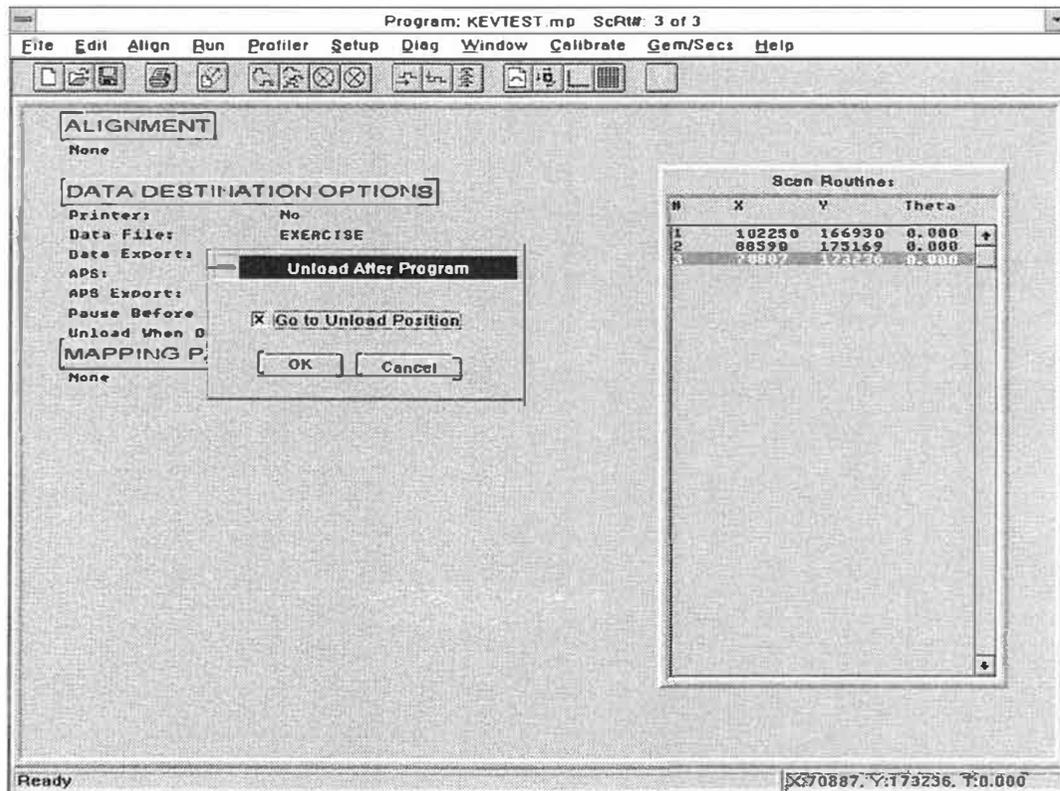

Figure 5-14. Unload After Program Dialogue Box
1. Click-on "Unload When Done" from the automation program data destination options. The Unload After Program dialogue box will be displayed (see Figure 5-14).